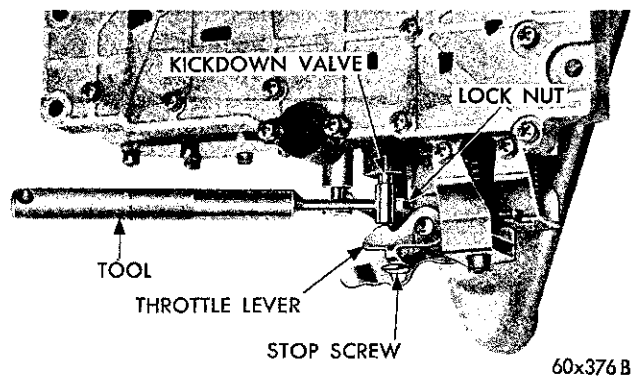

Fig. 30—Throttle Pressure Adjustment
(1) Remove the valve body assembly from the transmission to perform the adjustment. Refer to Paragraph 24.
(2) Loosen the throttle lever stop screw lock nut and back off approximately five turns (Fig. 30).
(3) Insert the gauge pin of Tool C-3763 between the throttle lever cam and the kickdown valve.
(4) By pushing in on the tool, compress the kickdown valve against its spring so the throttle valve is completely bottomed inside the valve body.
(5) As force is being exerted to compress the spring, tighten the throttle lever stop screw finger tight against the throttle lever tang with the throttle lever cam touching the tool and the throttle valve bottomed. **Be sure the adjustment is made with the spring fully compressed and the valve bottomed in the valve body.**
(6) Remove the tool and tighten the stop screw lock nut securely.